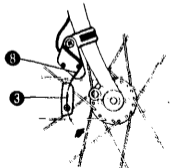

Fig. 9
- (3) Align the marking lines of magnet and sensor. (Fig 9)